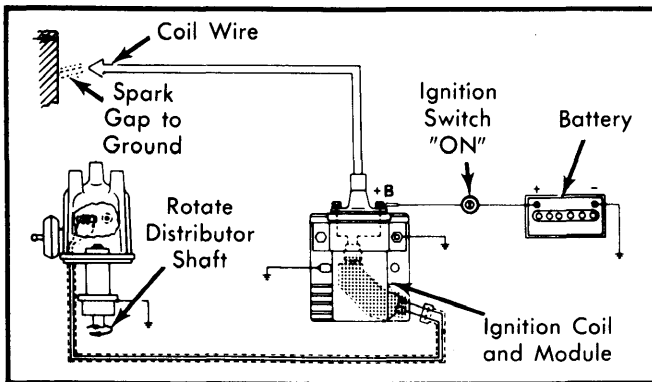

Fig. 8 Coil Wire Hookup for Making Control Module Check
1) Be sure all ignition system wires and connectors are properly connected. Disconnect coil-to-distributor high voltage wire at the distributor. Hold wire about 1/4" (5-6 mm) from a good engine ground, using insulated pliers. See Fig. 8.